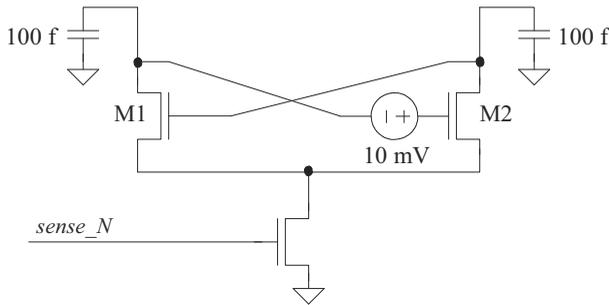

Figure 16.70 Circuit for Problem 16.3.
- 16.3** Repeat Problem 16.2 with the circuit in Fig. 16.70. In this figure M1 and M2 experience a threshold voltage mismatch (modeled by the DC voltage source seen in the figure).